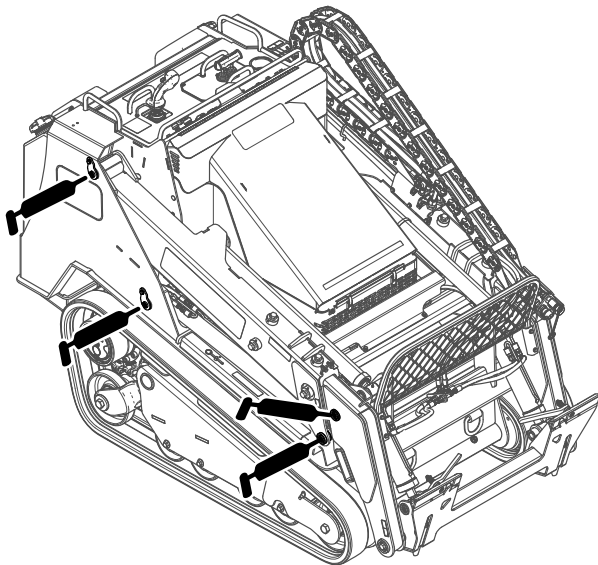
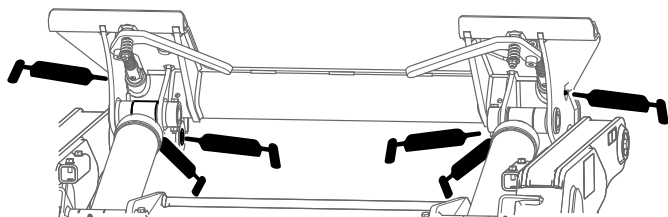
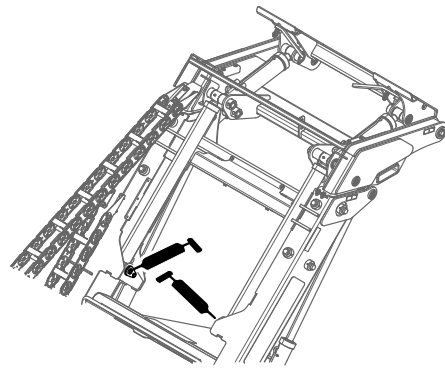

Figure 40
Figure 41
Figure 42
4. Connect a grease gun to each fitting (Figure 40, Figure 41, and Figure 42).
Note: Raise the loader arms before greasing the fittings in Figure 42.